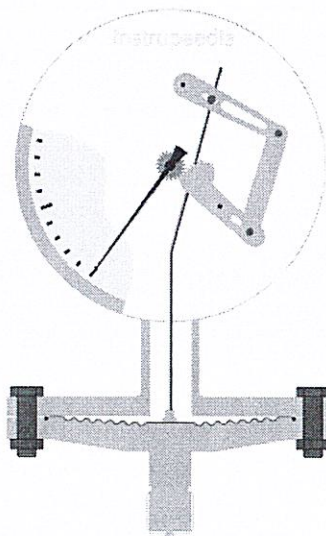

Figure 3
- (c) Describe the working principle of the instrument displayed in Figure 3.